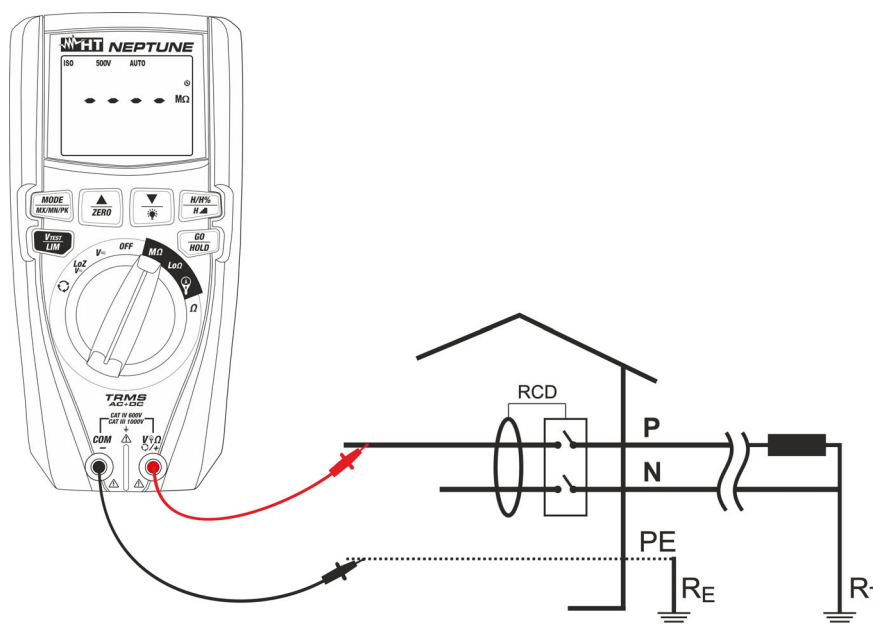

Fig. 15: Use of the instrument for insulation resistance measurement in AUTO mode
7. Insert the red lead into input terminal **V Ω +/+** and the black lead into input terminal **COM/-** and possible alligator clips, and connect the instrument to the system to be tested (see Fig. 15).